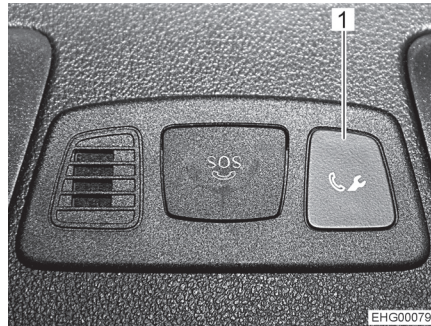
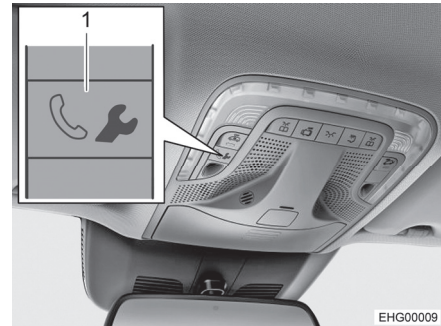

Fig. 12 Button for the call for breakdown assistance (centre console)
Fig. 13 Button for the call for breakdown assistance (roof operating unit)
- Press the button (Fig. 12,1 or Fig. 13,1) for the call for breakdown assistance. A call to the Mercedes-Benz customer centre is initiated.